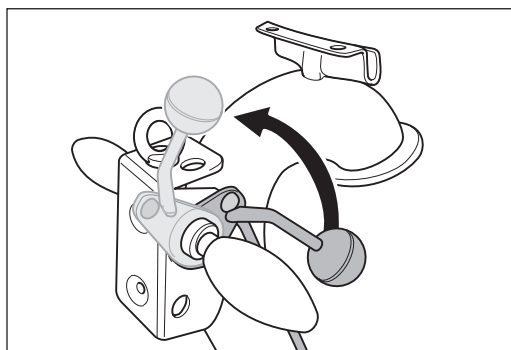

Fig. 4 Lift the sanding drum off the floor by turning the lowering lever at the handle upwards.
- 4 Lift the sanding drum off the floor by turning the lowering lever at the handle upwards (Fig. 4).